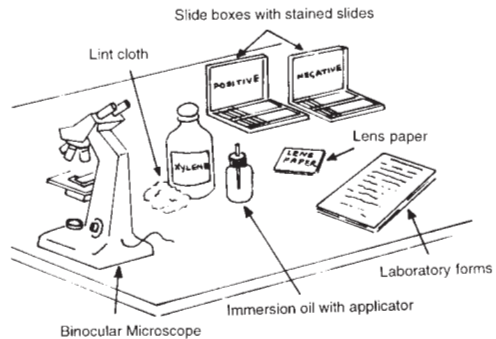

Fig. 9.4
- Place the microscope in a location from which it need not be moved frequently (Fig. 9.4).